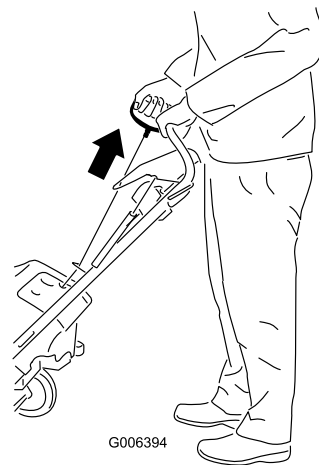
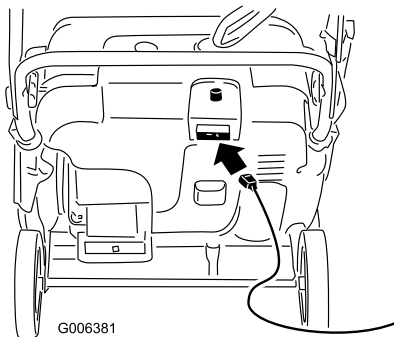

Figure 18
Figure 17
4. Connect an extension cord to a power source and the machine, and push the electric-start button (model 38459 only) (Figure 17), or pull the recoil start handle (Figure 18).